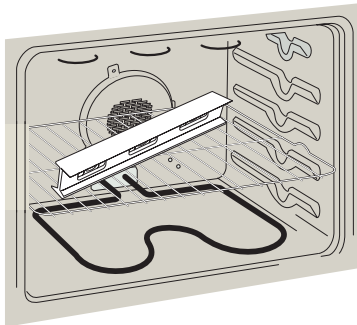

Figure 21
1. Install an oven rack in the center of the oven (see Figure 21).